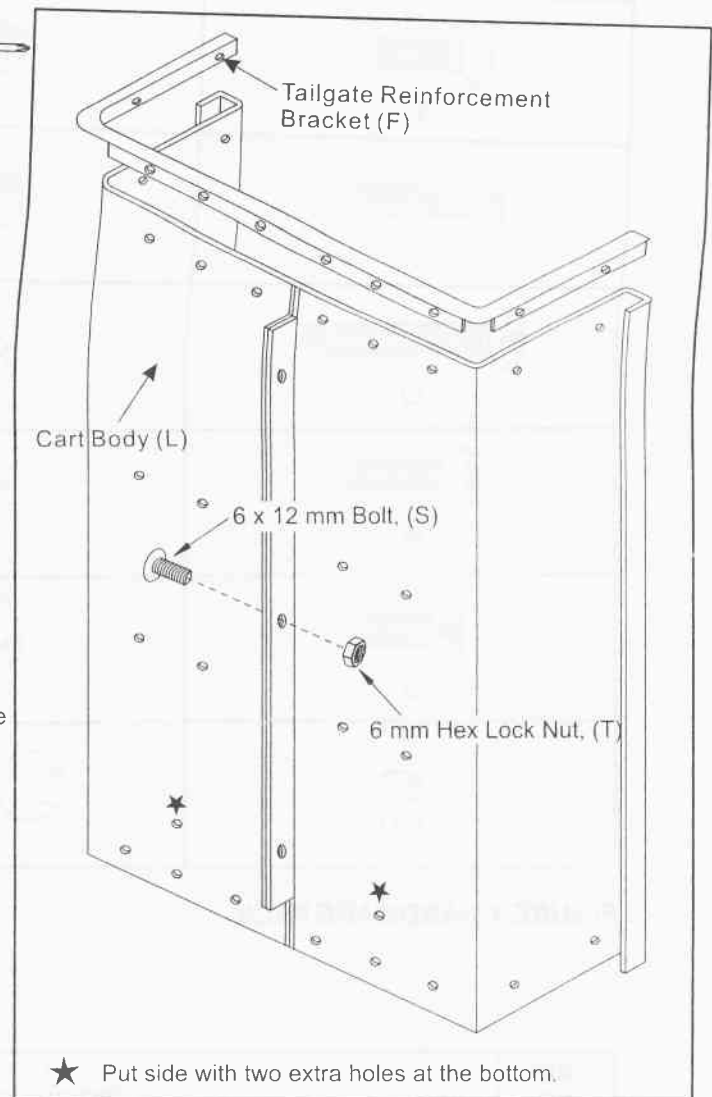

FIGURE 2
3. Position cart body (L) halves upright on a smooth level surface such as a garage floor or a paved driveway. Pay attention of remark. Right orientation is for next step. See figure 2.
4. Assemble halves together using 3 of 6 x 12 mm bolts (S) and 6 mm hex lock nuts (T) as shown in figure 2. Do not tighten.